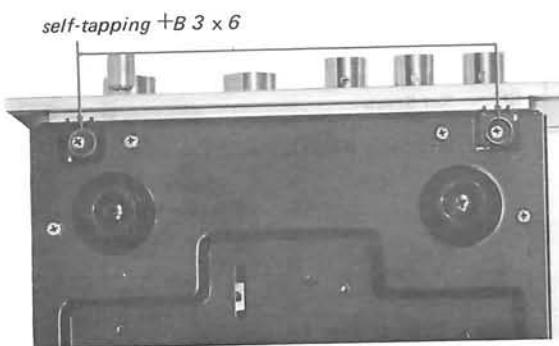

Fig. 2-3. Bottom view
4. Remove the two self-tapping screws (+B 3 X 6) securing the panel at the front edge of the bottom plate as shown in Fig. 2-3. This frees the front panel.